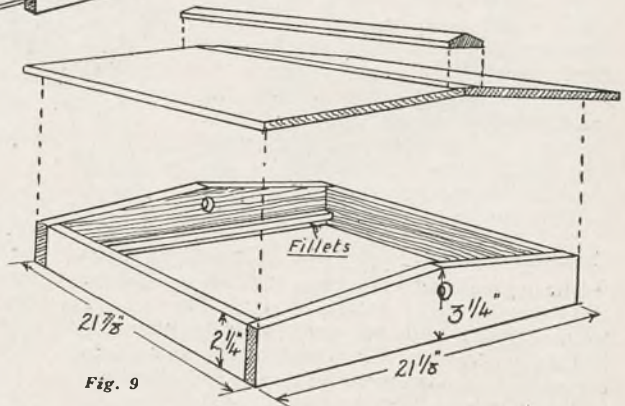

Fig. 9
The roof section, Fig. 9, has sides and ends of $\frac{3}{8}$ in. thick wood, nailed together. At $\frac{1}{2}$ in. above the bottom edge nail $\frac{1}{2}$ in. sq. fillets across, back and front where shown. Bore $\frac{3}{4}$ in. ventilating holes and cover these on the inside with wire gauge to exclude insects.
- Fig. 9. Roof section.